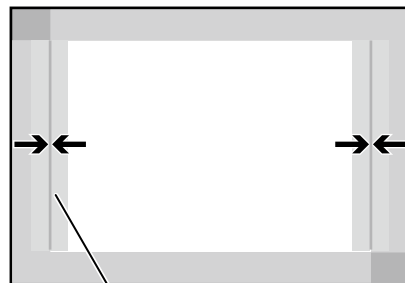

Fig.1-4
- 1) Insert a slot driver into the slot **F** and turn it to move the image vertically as shown in **Fig.1-4**.